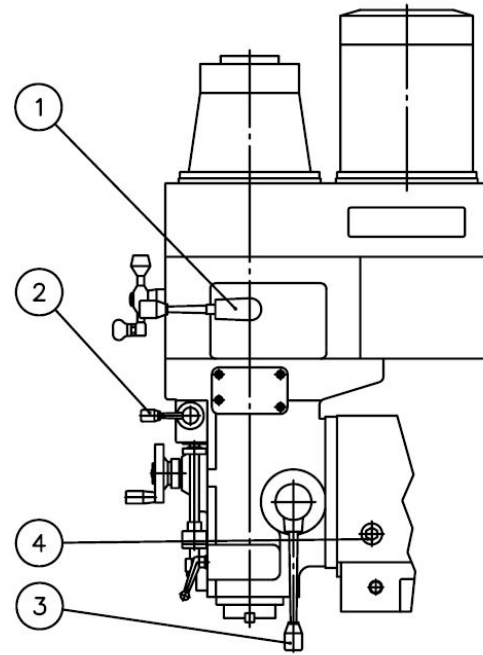

Fig.13
- (1) Stop rotation of the main spindle and align the shifter lever (Fig.13 (1)) with the mark + - on the name plate.
- (3) Set the spindle feed direction lever (Fig.13 (2)) either to the up (Marked ) or down (Marked ) position from the stop position in accordance with the instructions given on the name plate.
- (2) Turn the spindle head swiveling worm (Fig.13 (4)) with a wrench to swivel the spindle head to the required angle while observing the scale.
- (3) Tighten the 4 bolts after obtaining the required swivel.